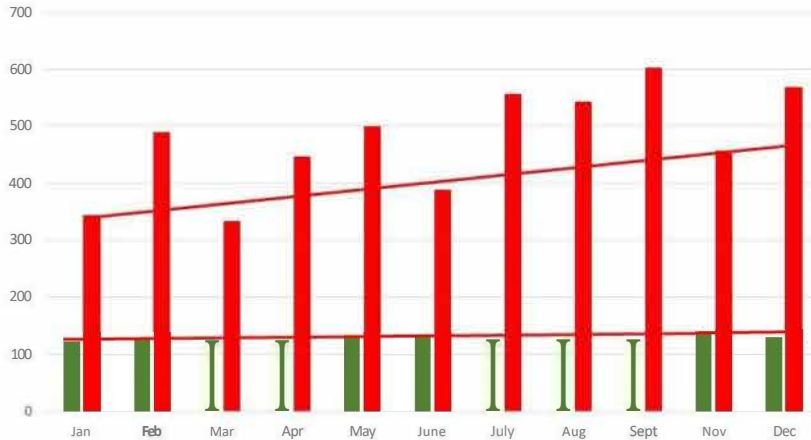

Figure 4: PM vs. emergency labor hours
Having the right effectiveness metrics in place and focused on continuous improvement is the answer. A great example would be if preventive maintenance (PM) compliance is above 98%, but the equipment continues to fail. It does not make sense, right? Well, have you ever thought about using a line graph that shows the correlation between PM labor hours and emergency labor hours in order to measure PM effectiveness? You must know where you are before you can begin a journey. See Figure 4, and if the results are not acceptable, you may want to review Step #1 again. PM compliance is a metric that only measures if PMs are completed on time. It is a joke in many organizations.